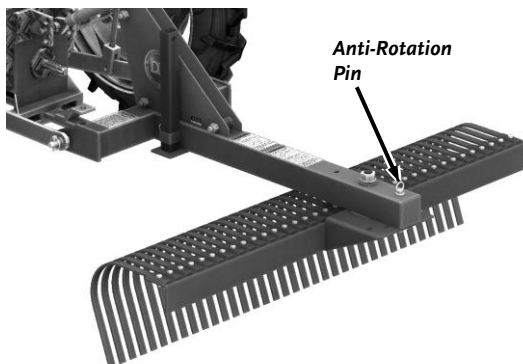

Figure 16
1. To use the Rake in the reverse setting, remove Hair Pin from the Anti-Rotation Pin and remove the Pin (**Figure 16**).